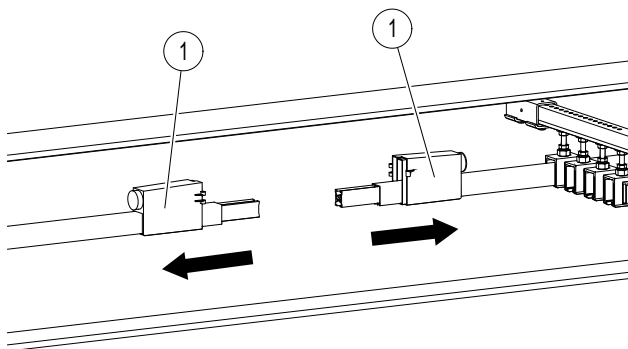

Fig. 69: Slide one insulating cap half of the connector over the rail ends
- Slide one insulating cap half of the connector over the rail ends (see Fig. 69).